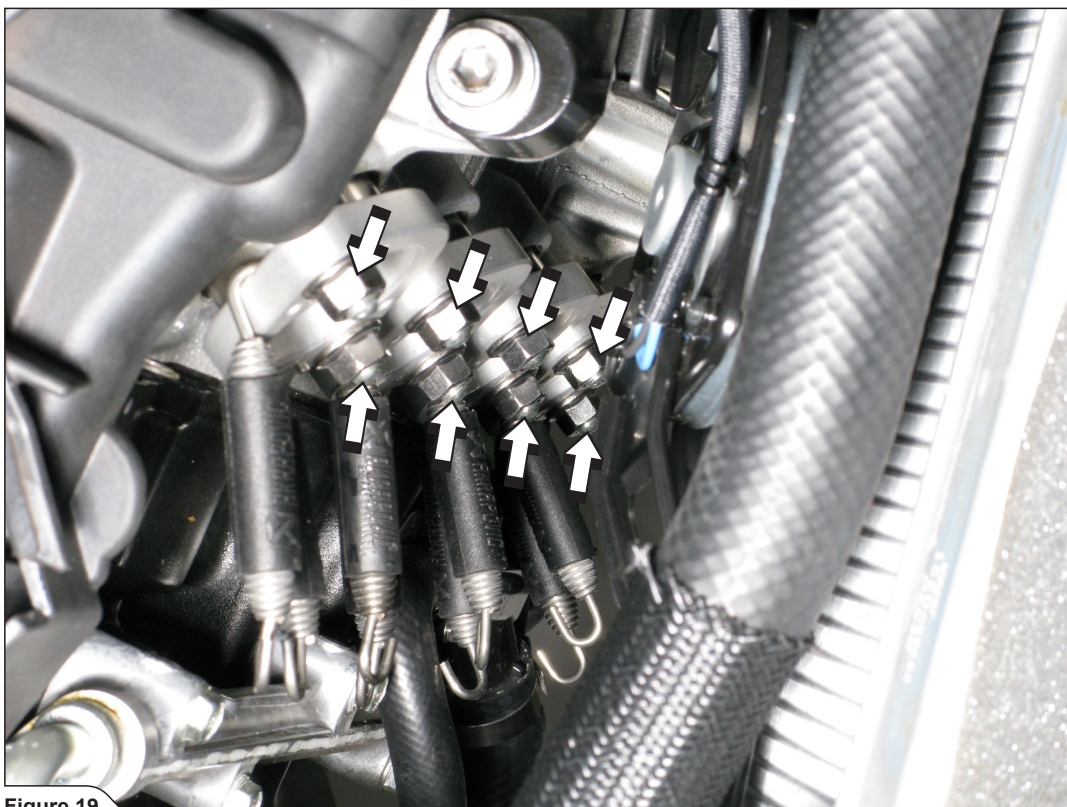

Figure 19
2. **For Optional Headers only:** attach the assembled sleeves, flanges and springs onto the exhaust ports, using stock nuts (Figure 19).